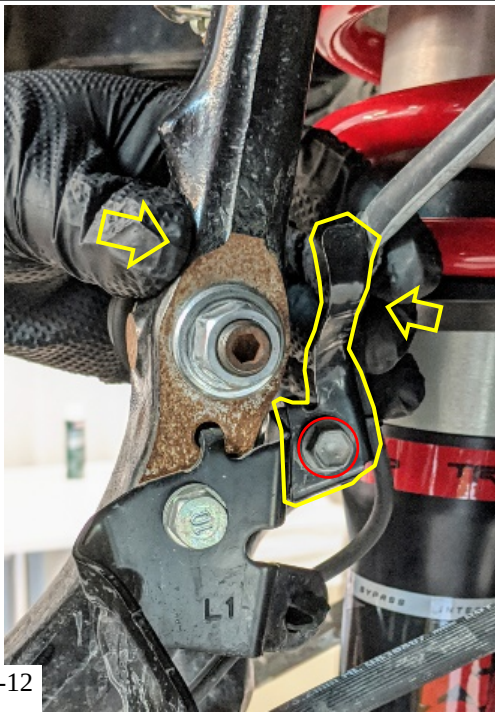

Fig. 2-12
- (k) While pinching the bracket towards the knuckle (Fig. 2-12), tighten the bolt to secure the bracket's position.